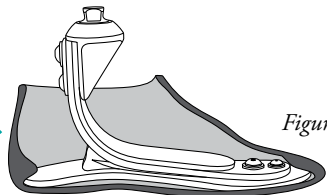

Figure 4
- **IMPORTANT:** The heel of the lower foot plate must slide into the heel lock in the foot shell for proper alignment and to secure the foot in the foot shell (Figure 4).